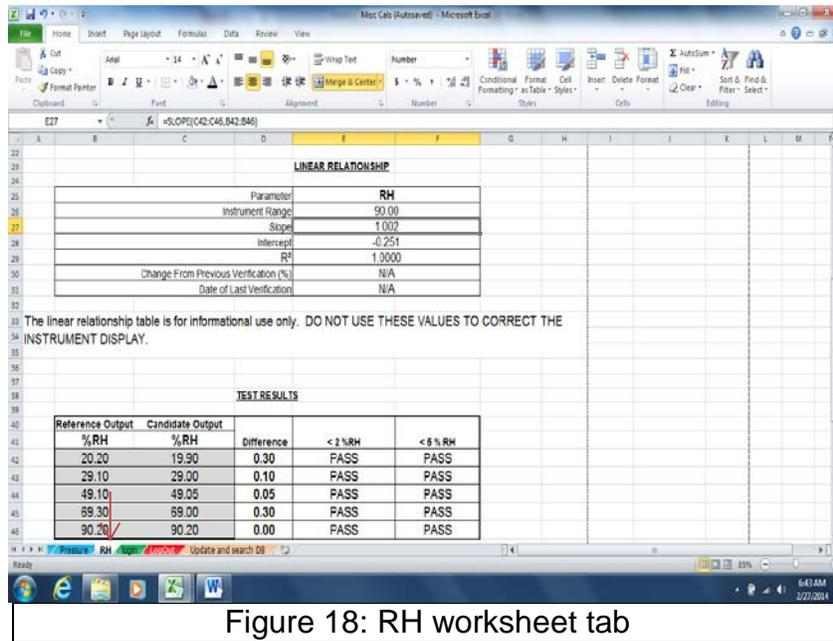

Figure 18: RH worksheet tab
12.11 Click on “RH” worksheet tab. See Figure 18.